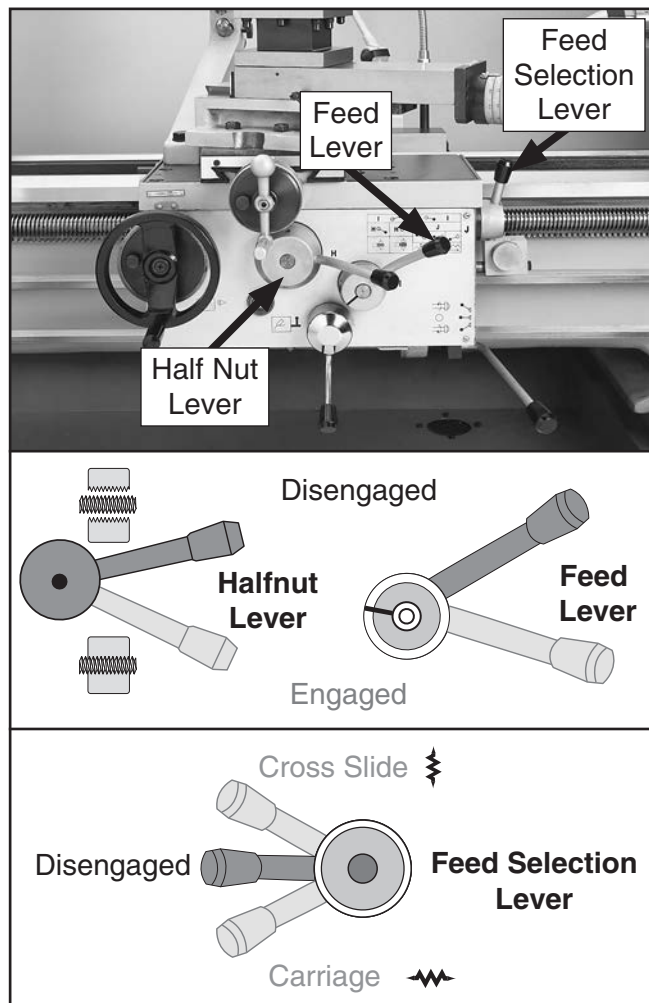

Figure 29. Disengaging carriage components.
9. To ensure the carriage components do not unexpectedly move during the following steps, disengage the half nut lever, feed lever, and feed selection lever (see **Figure 29**).